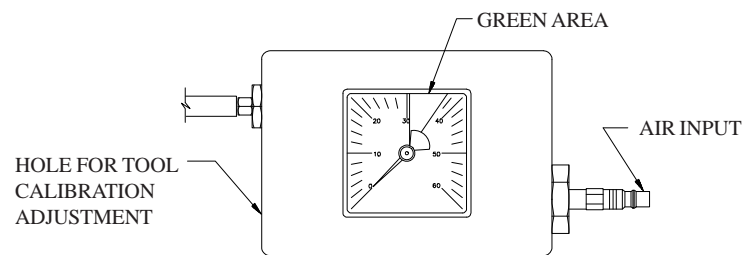

FIGURE 1
- 1.1 Plug the PMBT1200 Control Box into an air supply between 90-120 psi. The indicator on the Control Box will rise to the green area (see Figure 1). If the indicator is not in the green area please check tool calibration and adjust as described in Section 2.0.
- 2.2.3 Using a blade screwdriver, insert through the hole in the side of the control box (see Figure 1) and rotate until it engages the slot in the air regulator adjustment knob. Rotate the knob of the regulator clockwise to increase the tension reading and counterclockwise to decrease the reading until the desired readings are attained to meet calibration requirements of Paragraph 2.1.5. **(NOTE: If the control box gage indicating needle does not fall within the green banded area, the PMBT1200 should be returned to DMC for repair and recalibration).**
- 2.3.9 If the gage indicating needle still reads below the 62 lbs. value, insert a blade screwdriver through the hole in the side of the control box (see Figure 1) and rotate until it engages the slot in the air regulator knob. Rotate the knob clockwise to increase the tension reading to about 72 lbs.